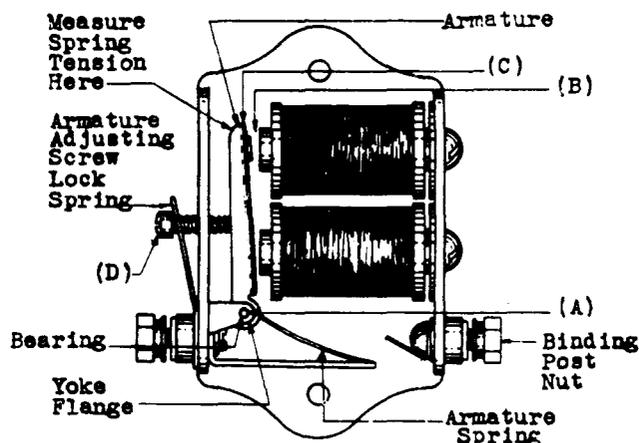

Fig. 1 - 12092 Buzzer
- 2.02 Freedom of Movement of Armature - Figs. 1 (A) and 2 (A) - The armature shall be free from bind in its bearings. Gauge by eye and by feel.
- 2.03 Armature Gap - Figs. 1 (B) and 2 (B) - With the armature in the non-operated position, the gap between the non-freezing disc on the armature and the pole face farther from the fulcrum shall be:
- 2.04 Armature Pressure - Figs. 1 (C) and 2 (C) - With the armature in the non-operated position, the pressure of the armature against the armature adjusting screw measured at the end of the armature farther from the fulcrum shall be:
- \*2.05 Tightness of Adjusting Screws and Lock Nuts - Figs. 1 (D) and 2 (D) - The ad-